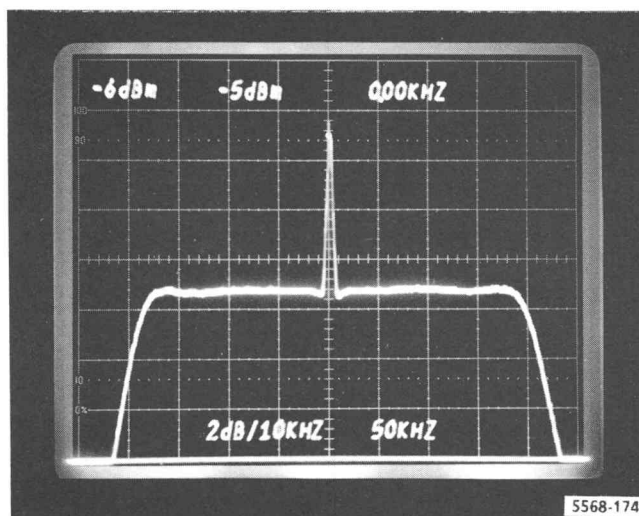

Fig. 4-65. Typical display when adjusting 1 MHz bandpass filter (deviation out).
- k. **ADJUST** L45 for the flattest frequency response possible to 150 kHz. See Fig. 4-65.